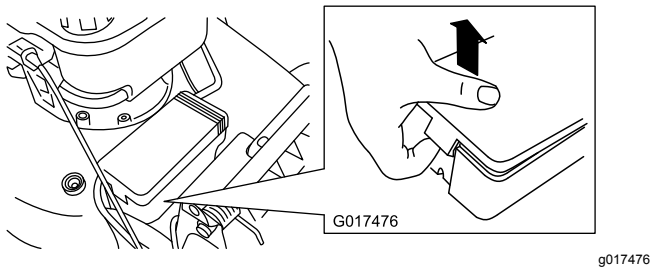

Figure 31
2. Unclip both ends of the battery cover and remove it (Figure 31).